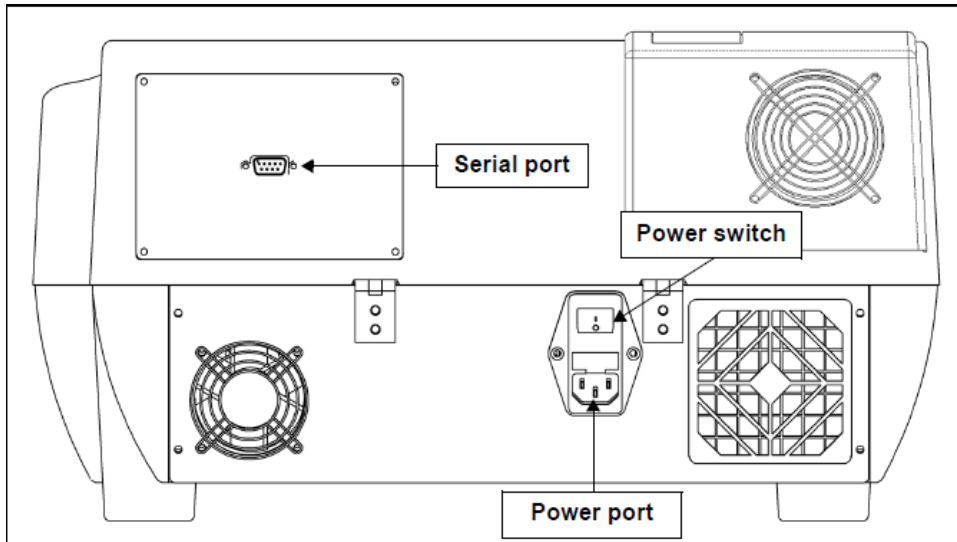

Figure 1-2. Power switch and connection ports
4. Connect the other end of the 9-pin serial cable to the serial port on the back of the instrument (Figure 1-2).
5. Connect the power cable to the power port on the back of the instrument (Figure 1-2).
6. Turn on the power switch on the back of the instrument (Figure 1-2).